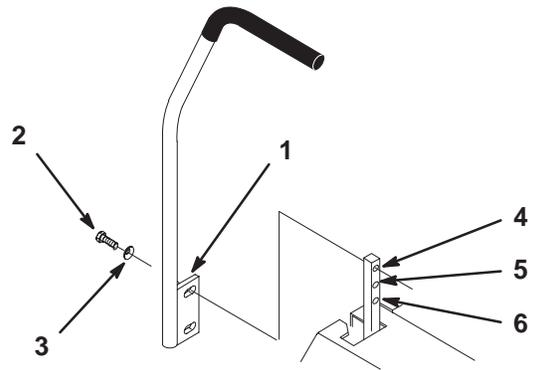

Figure 4
There are two positions to install the control levers, high and low. Install levers in the top and middle holes for the high position. Install levers in the middle and bottom holes for the low position (Fig. 4).
- Remove the 4 bolts (3/8 x 1 in.) and 4 spring washers (3/8 in.) which attach the motion control levers to the control arm shafts for shipping (Fig. 4).
- Place the levers (with the mounting plate toward the rear) on the outside of the control arm shaft and secure with 4 bolts (3/8 x 1 in.) and 4 spring washers (3/8 in.) (Fig. 4).
- Align the front/rear position of the levers, with each other, in the neutral position. Loosen hardware and adjustment by sliding/tilting the lever(s) forward or backward until properly aligned (Fig. 4).